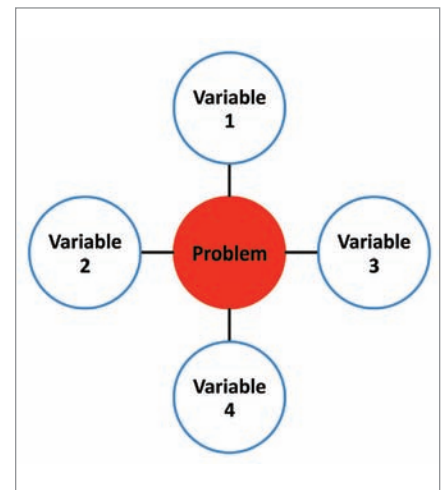

Figure 1: Four separate root causes or variables
problem and its occurrence. This is represented in Figure 1 where a problem could be caused by anyone, or multiples of, four (4) separate root causes or variables.